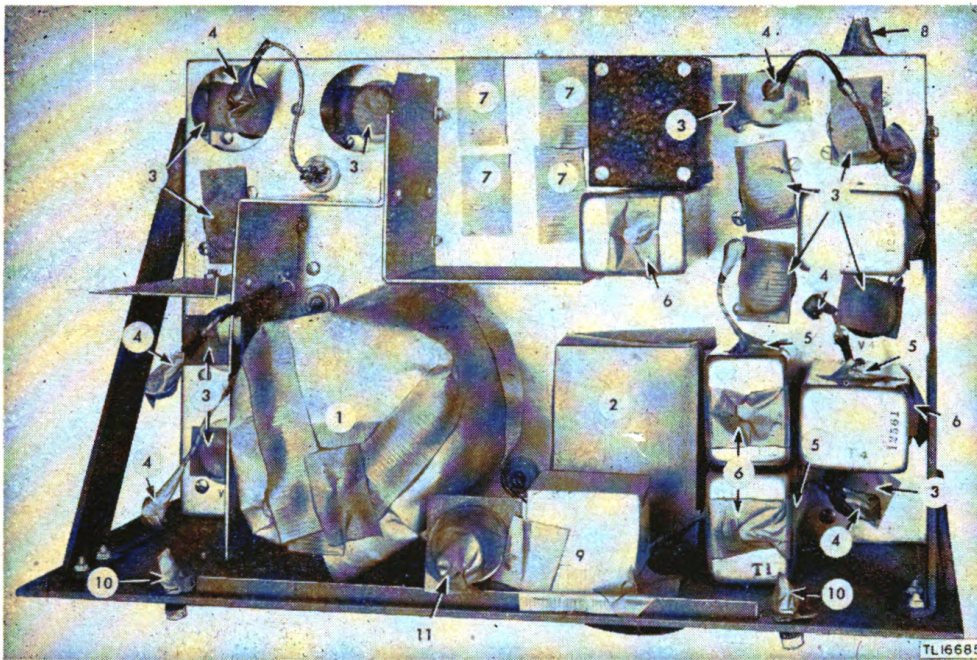

Figure 10. Radio Receiver and Transmitter BC-441-(), masked r-f chassis—top view.*
d. MASKING TOP OF RECEIVER AND TRANSMITTER CHASSIS (FIG. 10). Mask the following components:
Note: The following subparagraph numbers correspond to the part numbers on figure 10.